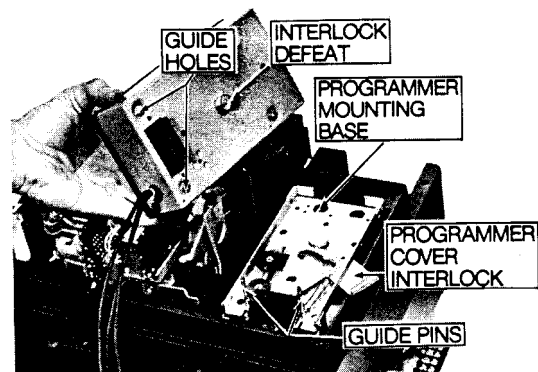

FIG. 15
- a) Align holes in bottom of programmer box with guide pins of frame mounting plate. Lower programmer until it is fully down on the mounting plate and the connecting plug is secure (Fig. 15).